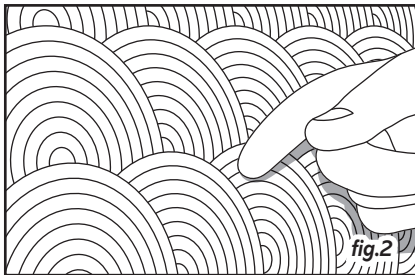

fig.2
- To align properly, place the panel against the wall and press it against the floor (or skirting). Then set the panel horizontally with the aid of a spirit level and mark a line on the panel parallel with the floor (or skirting). Cut the panel along the line. Repeat this procedure for the vertical alignment (fig.2 and 3).
- Check the glue's open time by placing a fingertip against the glued surface. If filaments appear when the finger is withdrawn, the open time is satisfactory (fig.2).
- Lay the joint from top to bottom, maintaining pressure on the start point with a finger (fig.2).
- Use a silicon jointing gun to lay a strip of silicon along the length of the joint (fig.2).